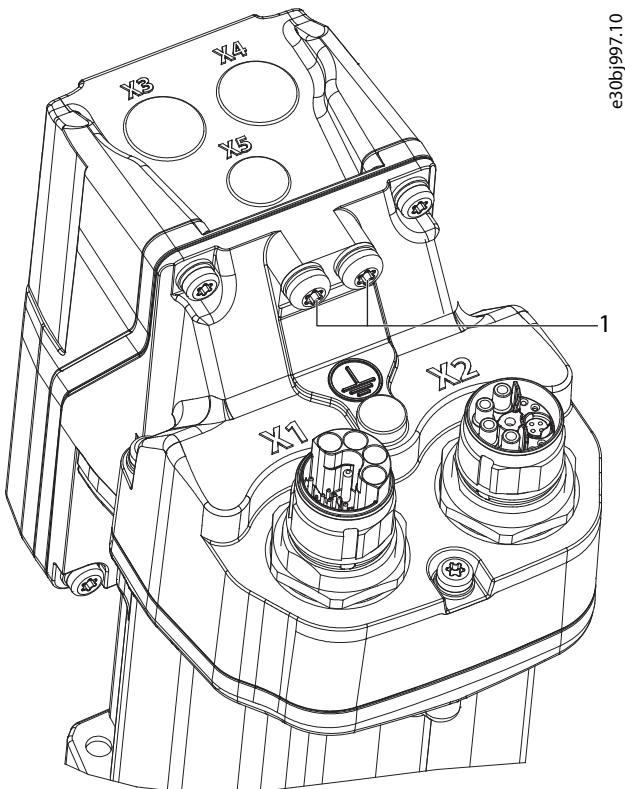

Figure 36: PE Screws on the ISD 520 Servo Drive
1. ISD 520 (E0 and E1): Ensure that the machine frame has a proper electrical connection to 1 of the 2 dedicated PE screws (see Figure 36).